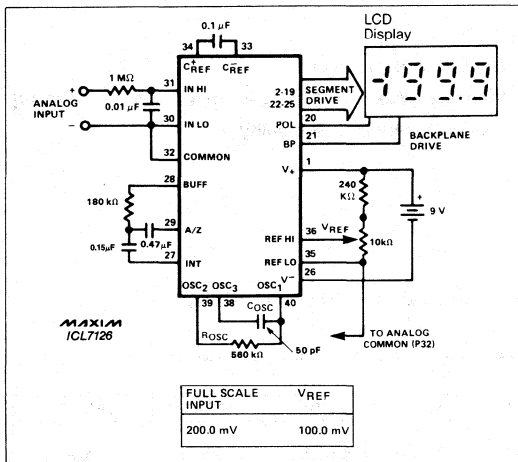

Figure 1. Maxim ICL7126 Typical Operating Circuit
(V+ = 9V; TA = 25°C; fCLOCK = 16kHz; test circuit - Figure 1; unless noted)
**Note 8:** Test condition is VIN applied between pins IN-HI and IN-LO through a 1MΩ series resistor as shown in Figure 1.
**Note 12:** 1MΩ resistor is removed from circuits in Figure 1.